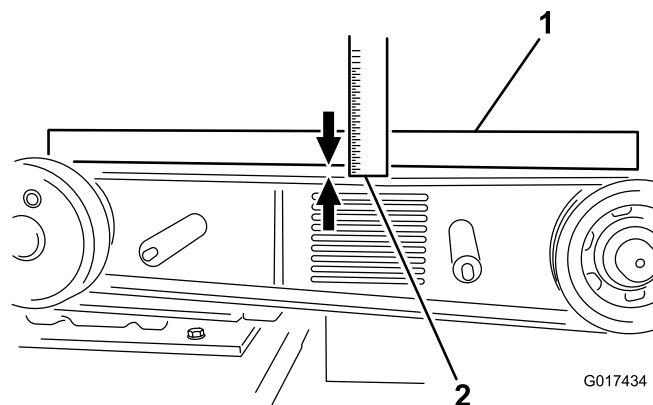

Figure 18
6. Lay a straightedge across clutch and flywheel pulleys, tighten belt tension bolt so there is 0.40 inch (1 cm) of flex in the belt when pushing down with 15 lbs (6.8 kg) force, at mid-span (when re-tensioning a belt in use) or with 18 lbs (8 kg) force when installing a new belt (Figure 18).